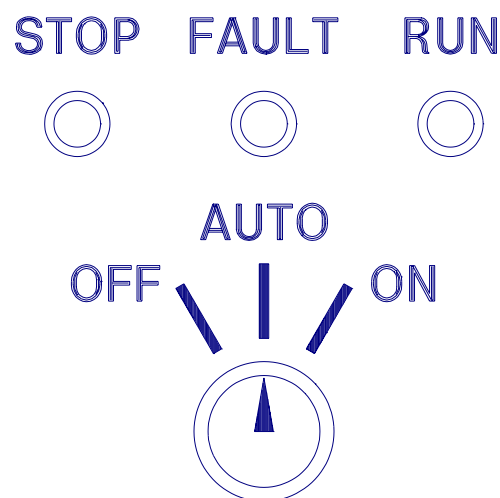

FIG 6.1.1
- Standard modules available which include a PCB module (3 options) with switch and LEDs, a connector block for field wiring, and labels (see Fig 6.1.1).